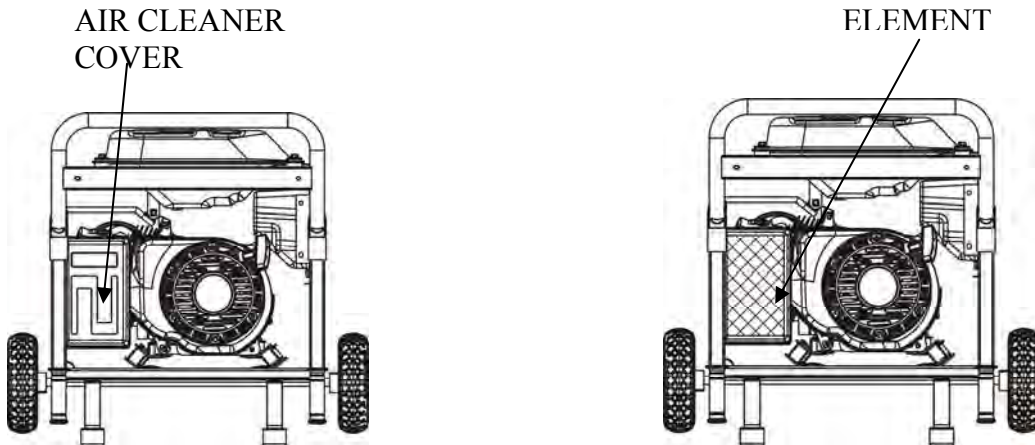

Figure 17- Air cleaner maintenance
1. Unhinge the clasps at the top and bottom of the air cleaner cover (see figure 17).